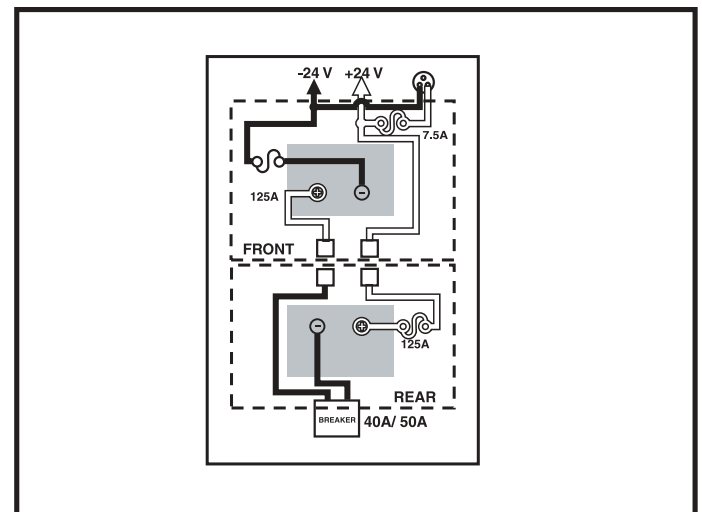

Figure 30. Battery Wiring Diagram Label
7. Reconnect the battery harnesses according to the battery wiring diagram label. See figure 30.